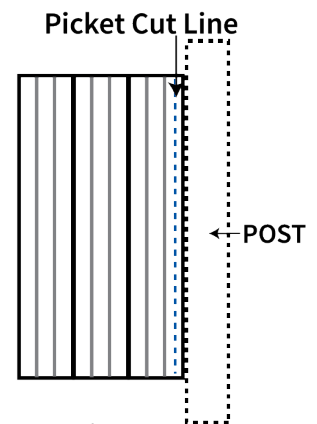

Fig.A3b
**NOTE:** If post spacing is less than 8' on center, you can cut the picket board on one side. The cut side of picket always goes against the post (Fig. A3b).